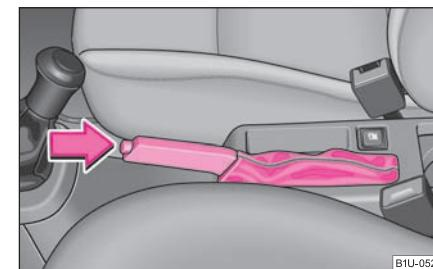

Fig. 102 Centre console: Hand-brake
- Pull the handbrake lever up slightly and **at the same time** press in the locking button ⇒ page 90, fig. 102.